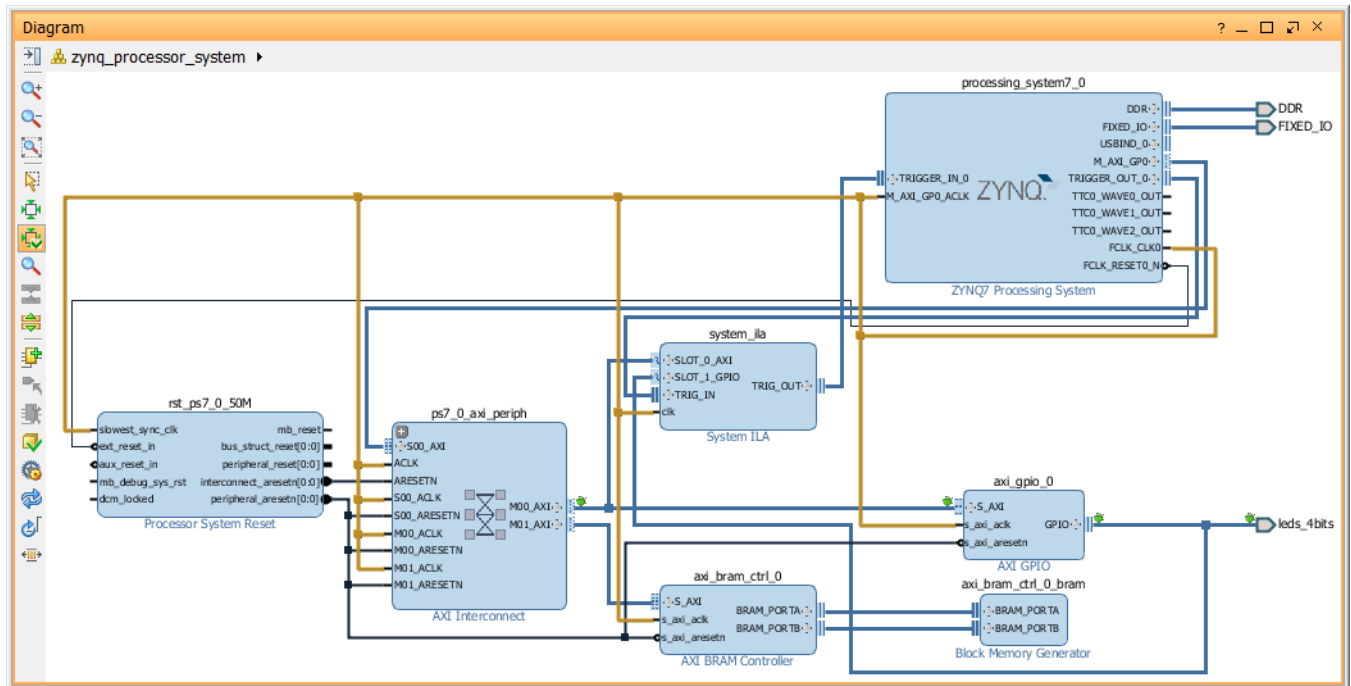

Figure 53: Block Design after Running Regenerate Layout
9. Click the **Regenerate Layout** button  to generate an optimal layout of the design. The design should look like Figure 53.